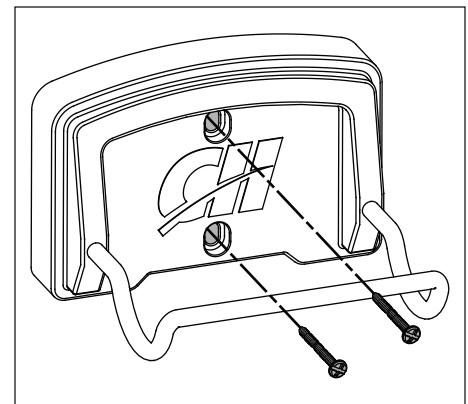

Figure 3 - Mount to wall with screws
2. When the universal adapter is firmly in place, press the locking lever down. (See Figures 3 and 4).